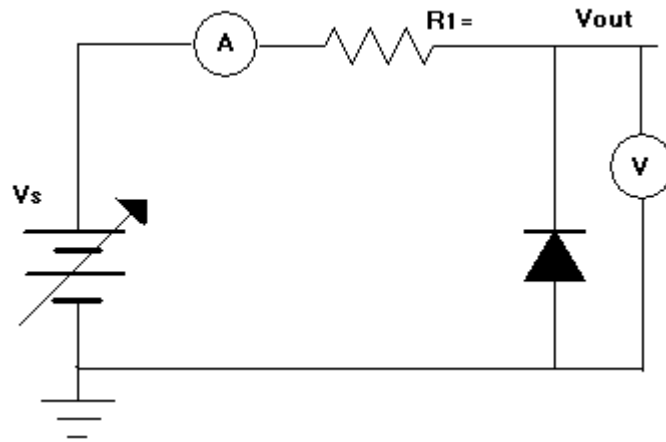

Figure 4.3
1. Connect the circuit in figure 4.3.